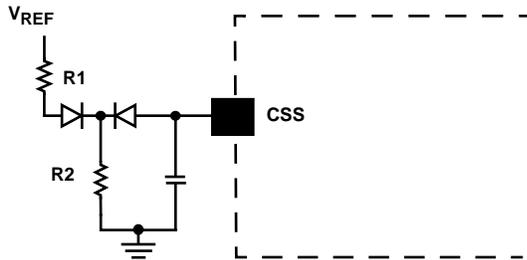

FIGURE 5. REFERENCE-BASED CLAMP CIRCUIT
- Since the charge current (I_{SS}) has a tolerance of $\pm 20\%$, the clamping voltage will vary significantly. For a more predictable clamping voltage, the CSS pin can be connected to a reference-based clamp circuit as shown in Figure 5. To make the V_{clamp} less dependent on the soft start current (I_{SS}), the currents flowing through R1 and R2 should be scaled much greater than I_{SS} . The relationship of this circuit can be found in Equation 4.